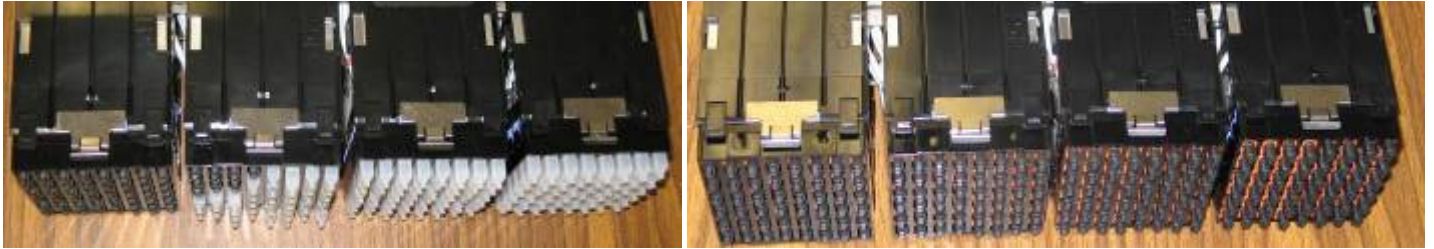

Figure 16 Remove Dust Covers
STEP 19 Remove all of the 192 dust plugs from the fronts of the connectors (see Figure 16)